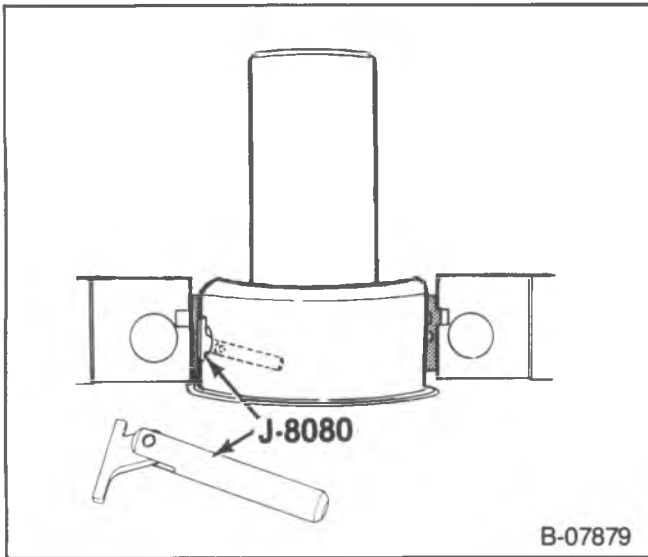

Figure 33—Removing the Main Bearing Insert
Remove or Disconnect (Figure 33)
- Insert J-8080 into the crankshaft oil hole (figure 33).
Install or Connect (Figures 33 and 34)
- Insert tool J-8080 into a crankshaft main bearing oil hole (figure 33).